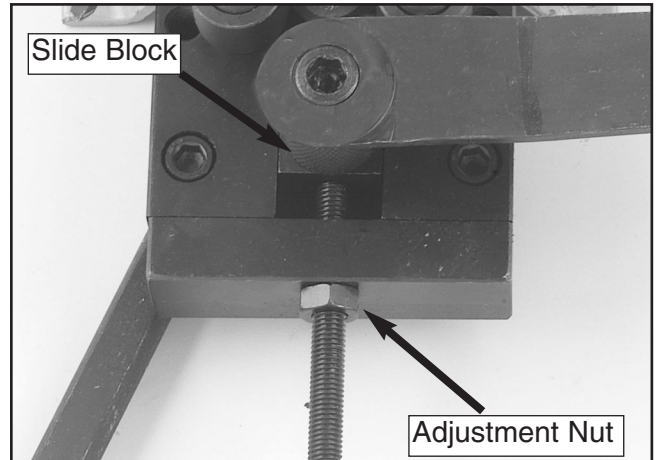

Figure 16. Adjustment nut against the back block.
2. Tighten the adjustment nut until it is in contact with the rear block (**Figure 16**).